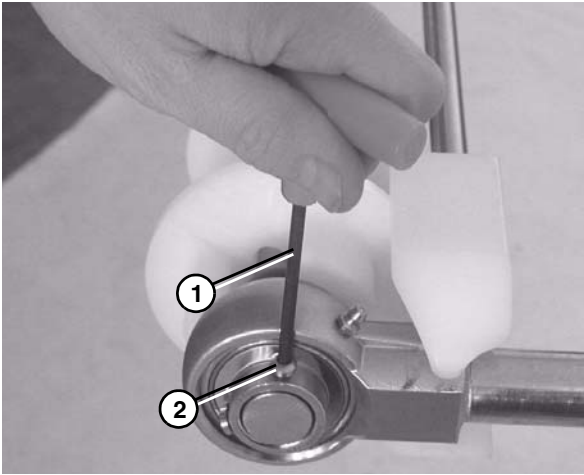

Figure 68
4. Use a hex wrench (**Figure 68, item 1**) to loosen the bearing shaft assembly fasteners (**Figure 68, item 2**).